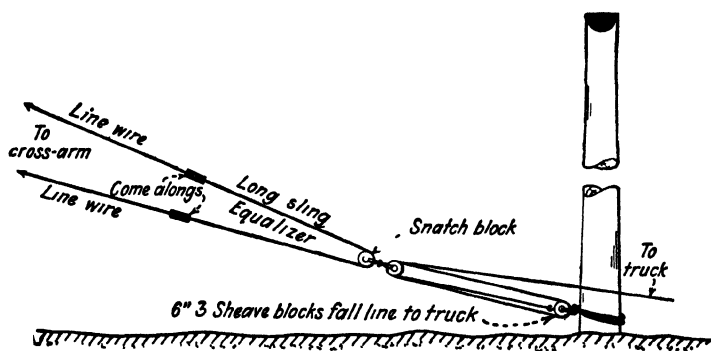

FIG. 14-34 Equalizer rig for two conductors.
**Use of Equalizer.** When possible, an equalizer may be used in pulling up conductors in order to produce the same tension on each conductor. The simplest form of equalizer for two conductors is that shown in Fig. 14-34. It consists of a rope with a come-along on each end to grip the